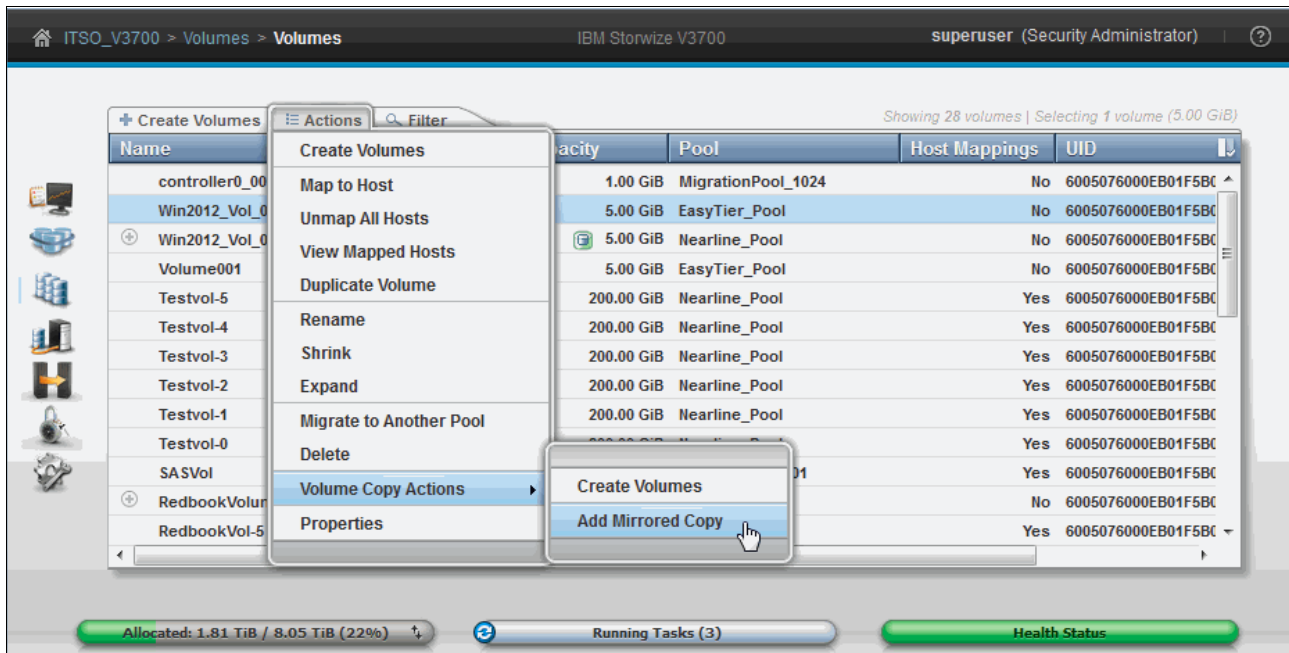

Figure 8-60 Add Mirrored Copy
1. Select the volume and click **Actions** → **Volume Copy Actions** → **Add Mirrored Copy**, as shown in Figure 8-60.